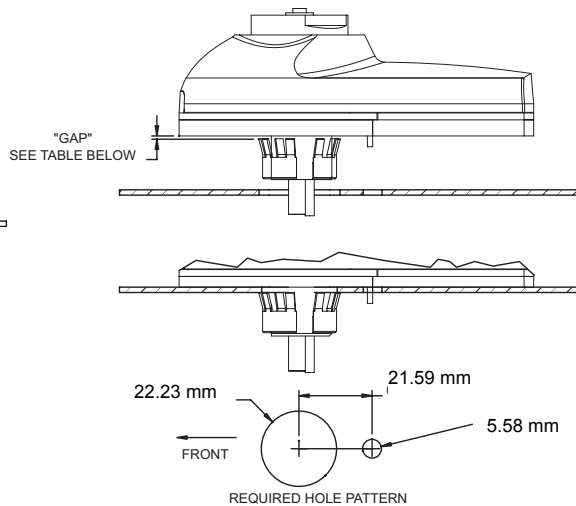

Figure 2. Blind Installation
2. Cut or drill holes through the mounting surface (0.33 cm max thickness) sized and positioned as shown in figure 2.